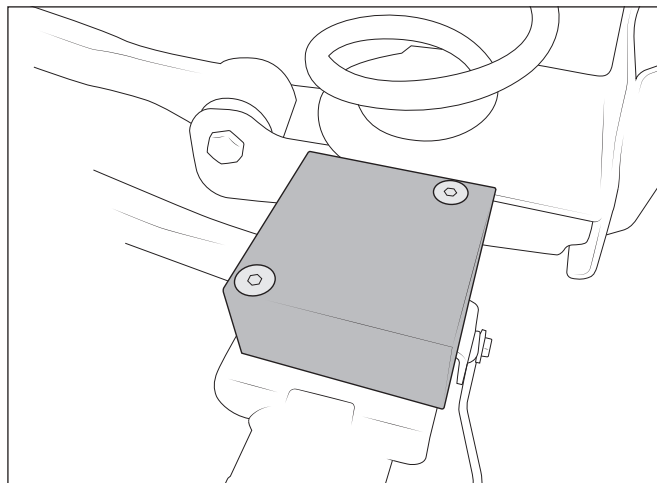

Figure 7
10. Drill the factory holes in the bump stop pads to $13/32$ ". Treat with rust preventative. Install AEV bump stop spacers on the axle using the supplied M10 flat head, countersunk bolts and flange nuts (fig. 7). NOTE: The longer side of the spacer should be at the rear of the vehicle.